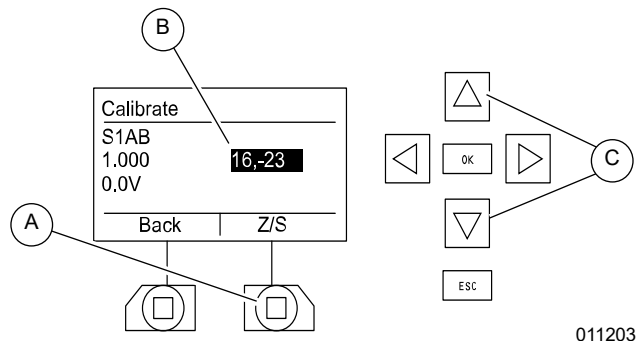

Figure 1-9. Highlight and Change Numbers
- See **Figure 1-9**. Press the “Z/S” button (A) to highlight the two numbers on the right (B).
- Press the up and down buttons (C) until the first number matches the second number.